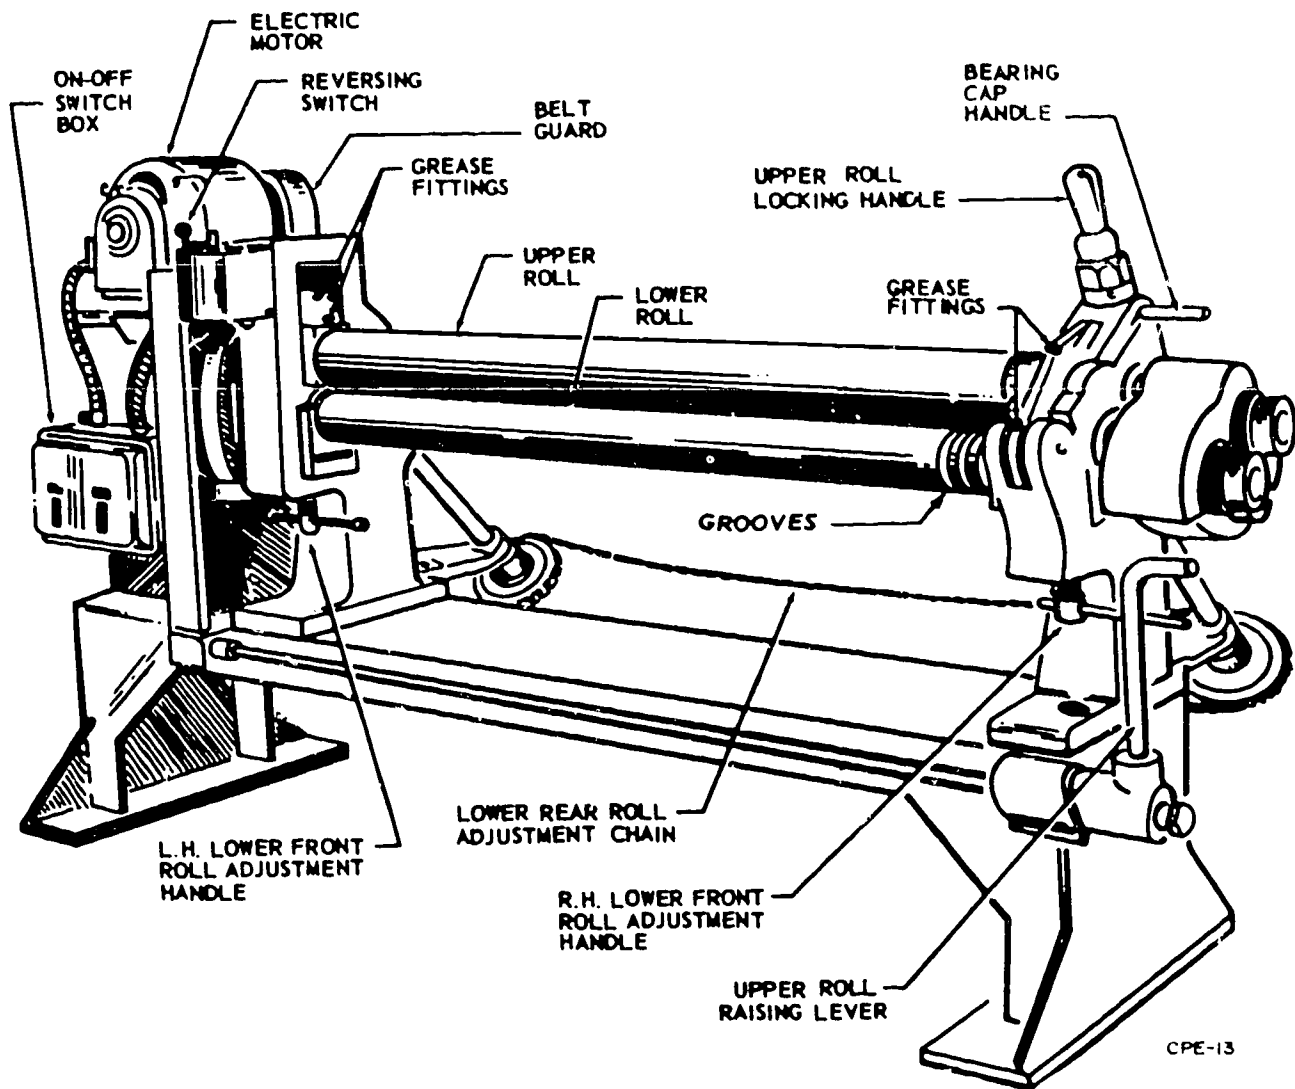

Figure 3-5. Power-operated slip roll.
**Power Operated Slip Roll Forming Machine.** The power operated slip roll forming machine, shown in figure 3-5, is a great deal like the hand-operated slip roll machine in that it has two lower rolls and one upper roll. However, turning power for the rolls is supplied by an electric motor. Direction of the rolls is controlled with a reversing switch.